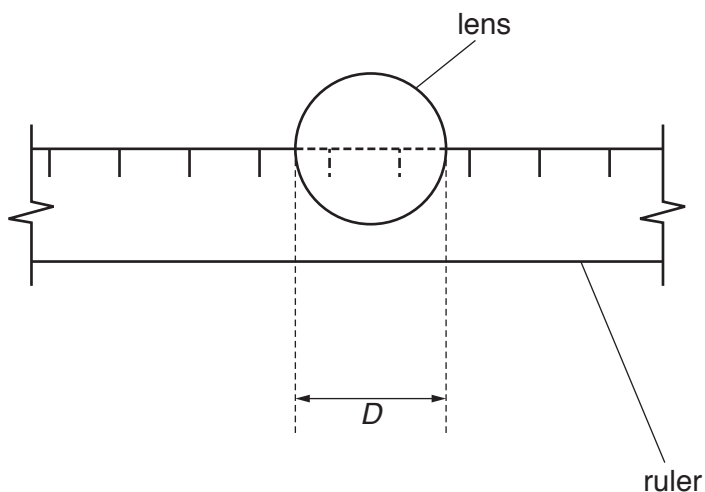

Fig. 1.2 (not to scale)
- (b) Place the lens on the ruler with a diameter of the lens along the edge of the ruler, as shown in Fig. 1.2.